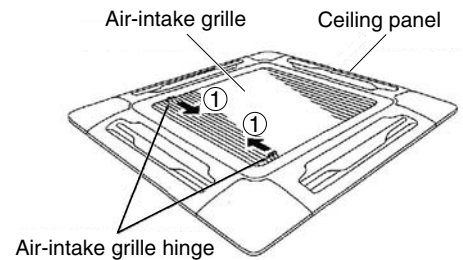

Fig. 9-26
- b) Slide the air-intake grille catches in the direction shown by the arrows ① to open the grille. (Fig. 9-26)